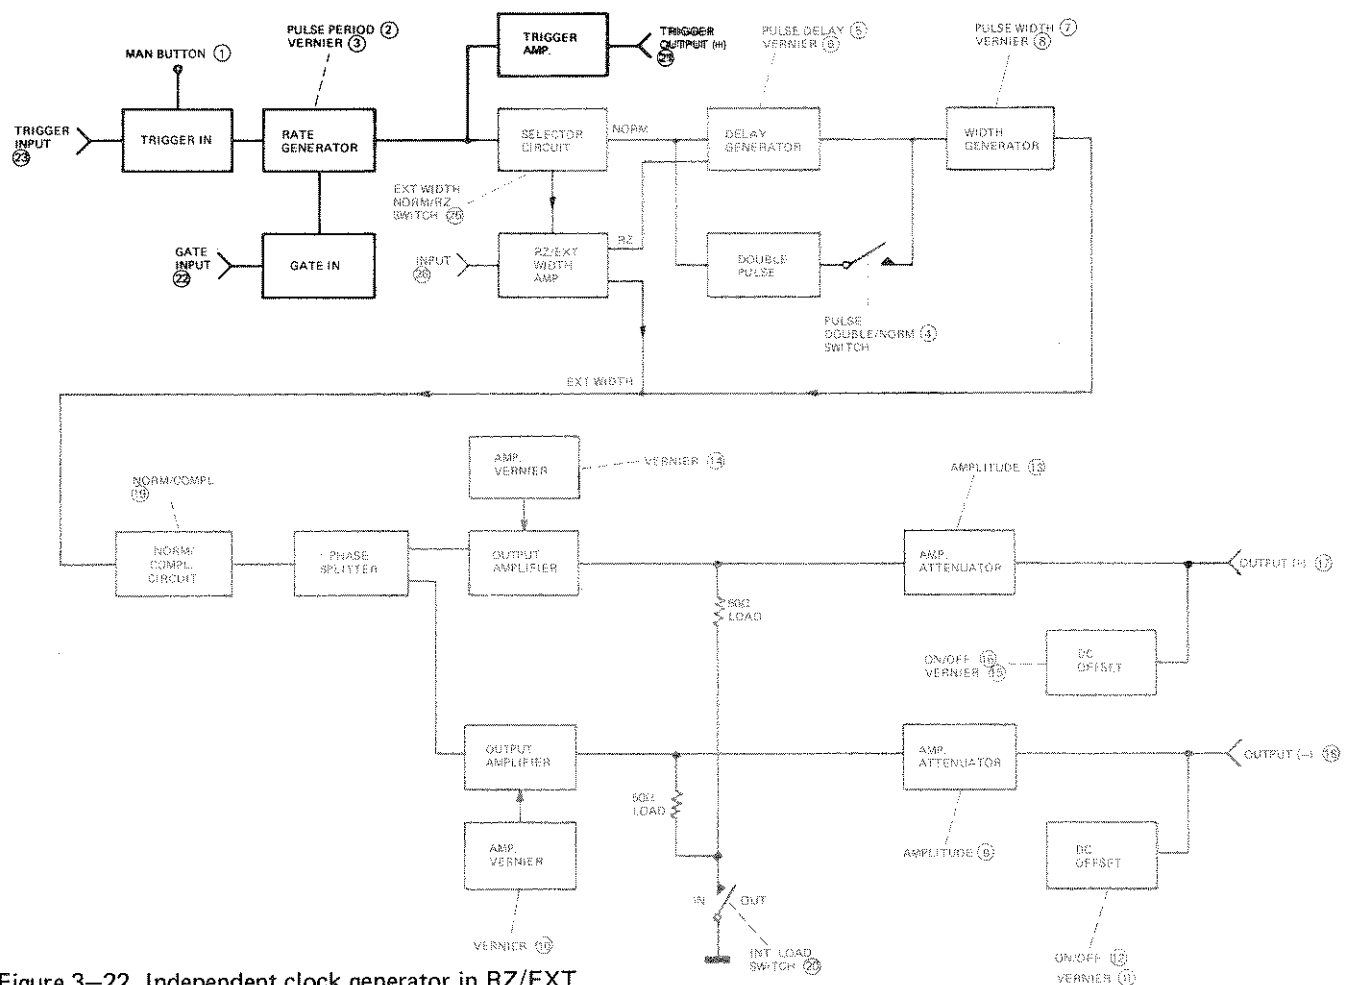

Figure 3-22. Independent clock generator in RZ/EXT WIDTH modes — block diagram
can be triggered internally, externally or manually and can also be gated as in the normal operating mode. If this facility is not required, it can be switched off by setting the PULSE PERIOD control (2) to EXT and disconnecting the TRIGGER INPUT (23). The circuits and controls involved in this facility are shown in Figure 3-22.